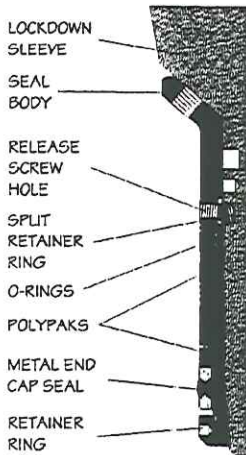

Figure 4b. detail of a resilient seal type Seal Assembly
10. Refer to **Figure 4b**. If a resilient seal type Seal Assembly is installed, inspect the Seal Assembly as follows.